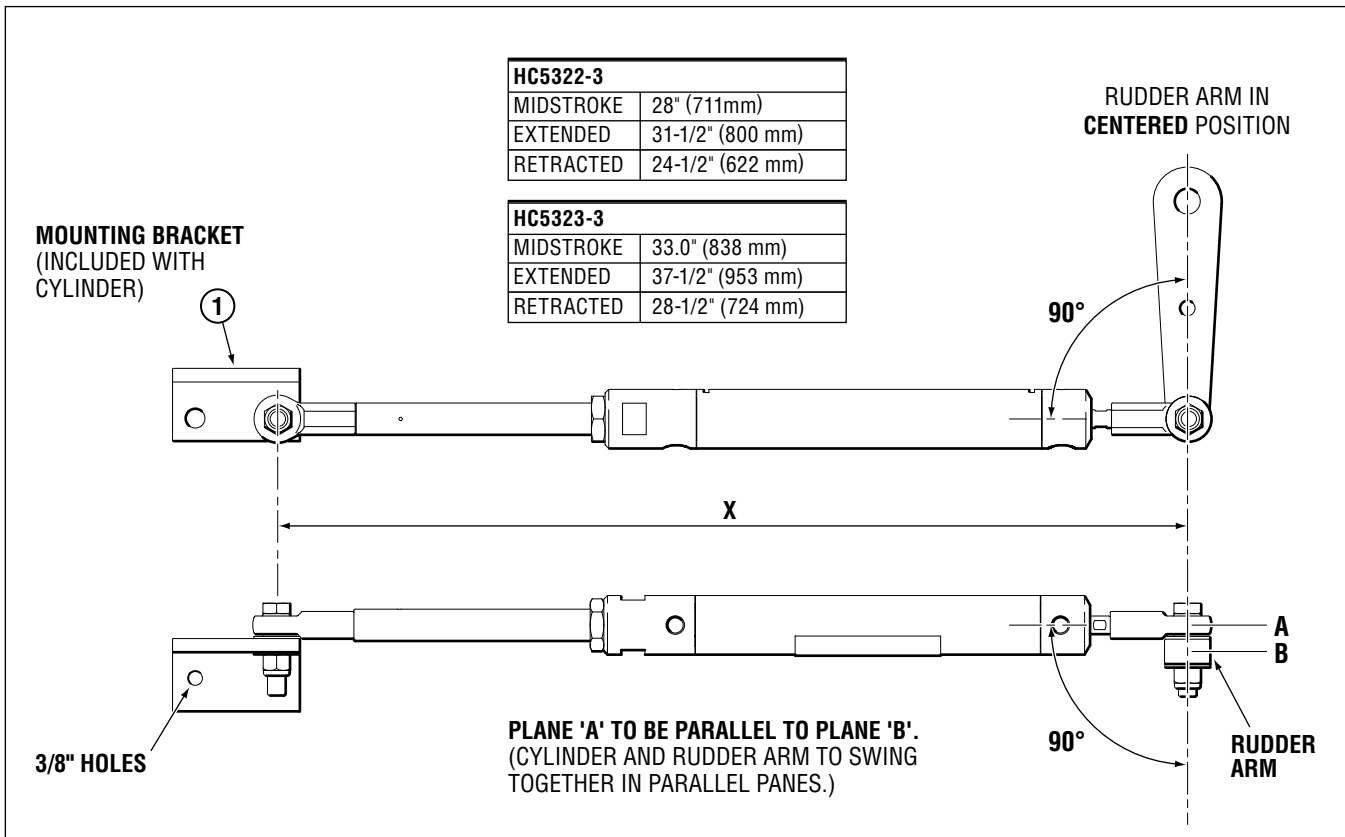

Figure 9. Correct Cylinder to Rudder Arm Mounting Orientation.
2. To achieve MAXIMUM performance, cylinder is to be mounted at a right angle (90°) to the rudder arm when in the center position (refer to Figure 9 below).
5. Place rudder in midstroke position and extend cylinder to mid stroke (see Figure 9).
6. Temporarily install the other rod end into the mounting bracket (item 1, Figure 9). Using the bracket as a template, mark off the positions of the two 3/8" holes on the mounting surface.
8. Mount the bracket (item 1, Figure 9) with through bolts, washers and nuts (not supplied by Dometic). DO NOT USE LAG BOLTS.